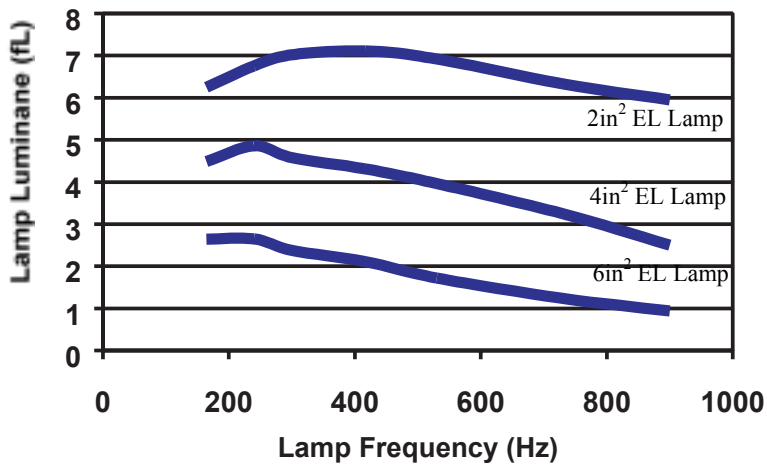

Figure 2: Typical Lamp Luminance vs. Lamp Frequency
The selection of the CLF value can also affect the brightness of the EL lamp because of its control of the lamp frequency (LF). Although input voltage and lamp size can change EL lamp frequency as well, LF mainly depends on the CLF value selected or the frequency of the input clock signal to CLF. The luminance of various sizes of Durel 3 Blue-green EL lamp driven by a D355B at  $V^+ = 3.0V$  using the same inductor value is shown in Figure 2 with respect to lamp frequency.